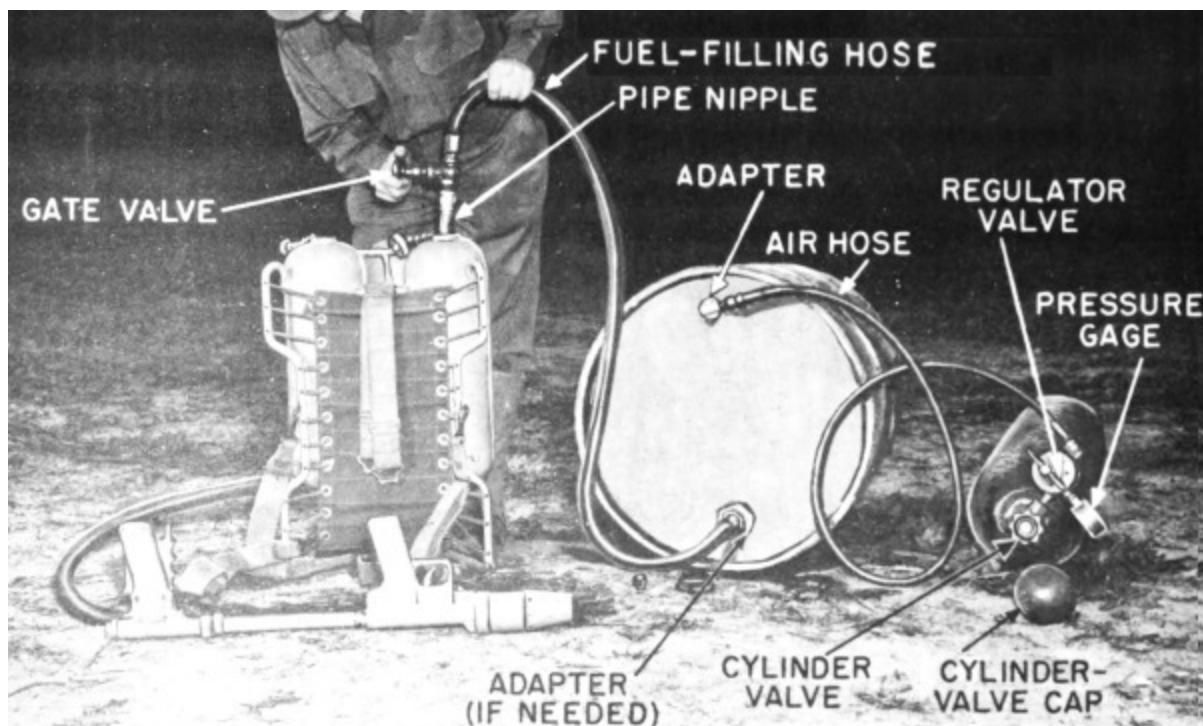

Fig 30. Blowing thickened fuel into fuel tanks by use of cylinders of compressed air or nitrogen.
c. Connections. The source of pressure (see a above), the drum of fuel, the fuel-filling line, the air hose, and other parts, are connected as shown in Figure 30. Threaded adapters are used, as necessary, to fit lines to the drum. All threaded connections should be made tight by the use of wrenches on the joints. The drum and the pressure cylinder (if the latter is used) should be laid on their sides on the ground or a platform. The opening of the drum connected to the fuel-filling hose should be close to the ground or platform. If tank group is filled without gun group, lock coupling plug (Par 70) in tank coupling.
- (1) Remove both the filling and safety-head plugs.
- (2) Inspect interior of tanks to see if clean and free from foreign matter. If not clean, flush with gasoline.
- (3) Place end of fuel-filling hose in either one of the two fuel-tank plug holes, using a nipple as a spout.
- (4) Start air compressor or pump, or open the valve on the cylinder of compressed air or nitrogen. Open regulator valve on filling line by turning handle slowly until gage shows 15 to 20 pounds pressure, but no more. **Caution:** “Cracking,” or opening a cylinder valve without using the proper regulator valve (Par 39 a), may result in explosive pressure in the drums.
- (5) Both tanks must be filled to within 2 inches of their tops. Close valve on fuel-filling hose to halt flow at this level.
(6) If no additional flame throwers are to be filled, close pressure-cylinder valve, or stop compressor or pump. Then, using wrench, slightly loosen the air line at the drum, allowing pressure to bleed. When the pressure in the drum has fallen to that of the atmosphere, close regulator valve.
(7) Roll drum slightly and gently until fuel-filling hose is at top of drum.
(8) If there are valves on each end of the fuel-filling hose, use wrench to slightly loosen hose, allowing gradual escape of pressure. Stand away from, and at the side of, the connection. Keep hose pointed away from other personnel. When all pressure has been released, complete unscrewing of hose.
(9) Wipe fuel-tank plug seats and the plug threads with a clean, dry cloth. Then screw in filling plug and safety-head plug assemblies, applying grease (Par 49 b) if plug tends to freeze to seat. Tighten with wrench. Wipe any spilled fuel from weapon.